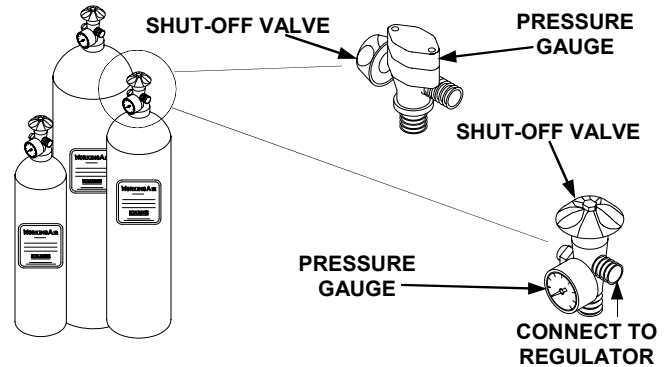

Figure 2-2. Air Cylinder Controls and Gauges
- b. **Air Cylinder.** The only control on an air cylinder (figure 2-2) is the shut-off valve that permits or prevents the flow of compressed air.
- b. **Air Cylinder (Figure 2-2).** A supply pressure gauge is provided on the air cylinder. The gauge is marked in 1000 psi increments from 1000 psi to 4000 psi and is scribed each 200 psi.